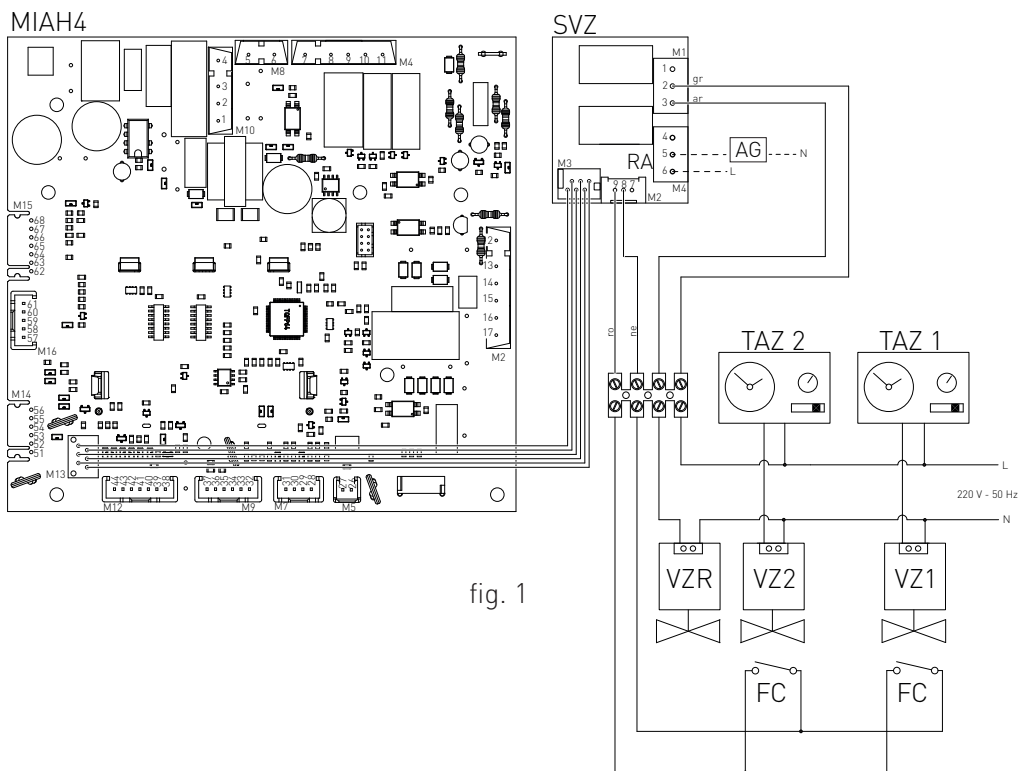

fig. 1
- › after removing the back plate, connect the items below to the electronic board (see fig. 1):